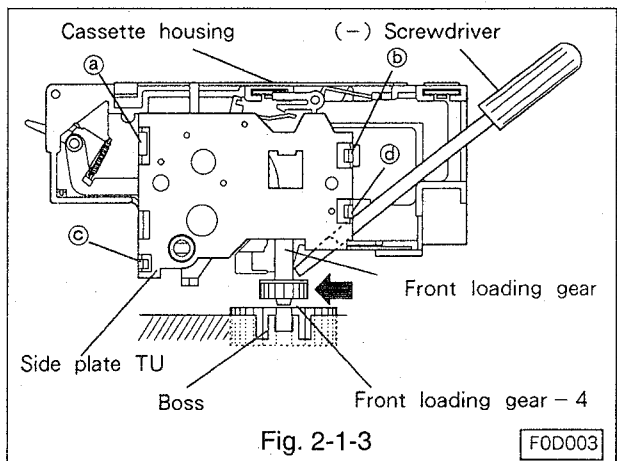

Fig. 2-1-3
- In step A above, if the front loading gear of the cassette housing does NOT engage the boss on the main plate, carefully push the gear toward the front of the VCR using a small-diameter screwdriver, as illustrated in Fig. 2-1-3. If the gear still will not engage, rotate the Front Loading Gear a few degrees from below the deck until the gear engages the boss correctly.
2-2-1 Removal(Refer to Fig. 2-1-3~2-2.)
- Unfasten four snaps (a~d) as shown in Fig. 2-1-3, and remove the side plate TU.
2-2-2 Installation(Refer to Fig. 2-1-3~2-2.)
- Install the side plate TU to the cassette housing, and secure it with four snaps (a~d) as shown in Fig. 2-1-3.